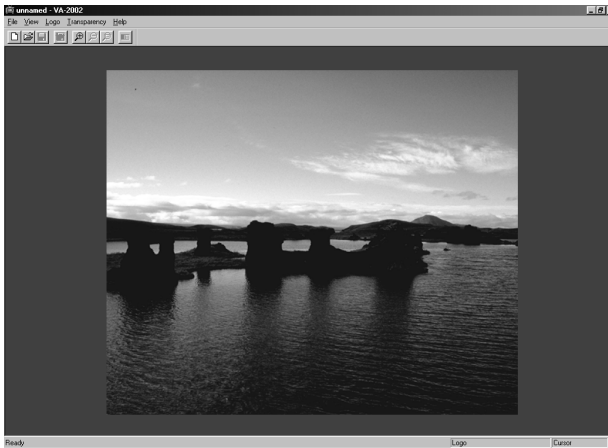
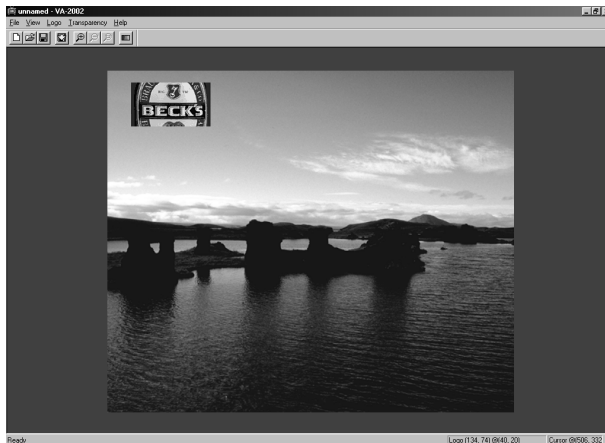
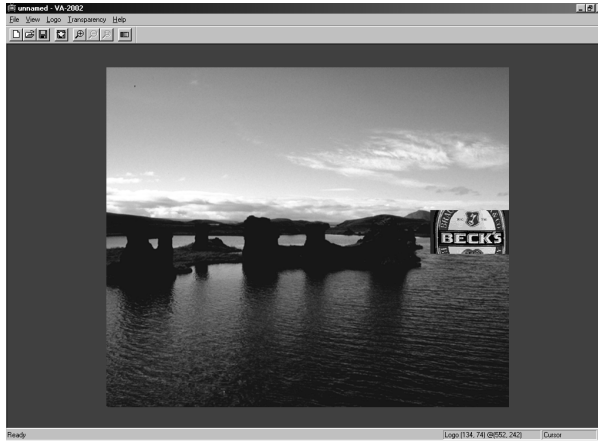
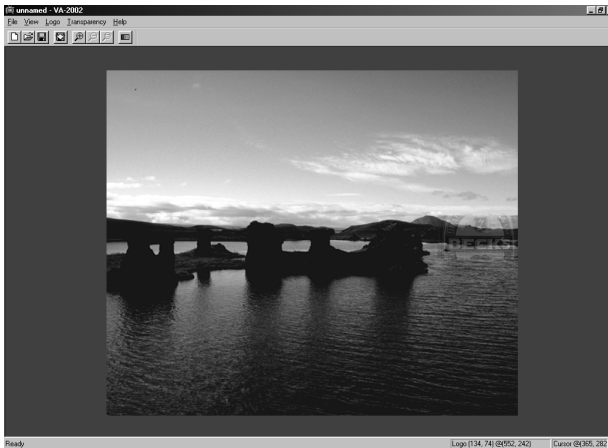

Figure 10: Unnamed – VA-2000 Window
Figure 12: Solid Logo on the Upper Left Side of the Screen
Figure 13: Solid Logo on the Center Right Side of the Screen
Figure 15: Transparent Logo on the Center Right Side of the Screen
1. Start the **VA-2002** Logo Finalizer and Upload program by clicking the appropriate shortcut in the Start menu's Programs folder¹ or double-clicking the *VA2002_Finalizer.EXE* file². The Unnamed – VA-2000 window opens displaying a background screen³, as Figure 10 illustrates:
The Unnamed – VA-2000 window appears with the selected logo (in this example, Becks.bmp) superimposed on the upper left side, as Figure 12 illustrates.
5. You can move the bitmap to a different location on the screen—by dragging it with the mouse—as the example in Figure 13 illustrates.
¹ For example, if the Unnamed – VA-2000 window (illustrated in Figure 10, Figure 12 and Figure 13) was saved as a VA-2002 Project file named “design”, the words “design. lpj” would appear in the Title bar
Add transparency to an inserted logo to enable the viewer to see what is being broadcast behind that logo. Generating a solid logo over part of the screen will block out that part of the viewing area. For example, compare the solid logo illustrated in Figure 13 with the transparent logo illustrated in Figure 15:
¹ As the example in Figure 13 illustrates
² In the example in Figure 15, transparency is set at 80%